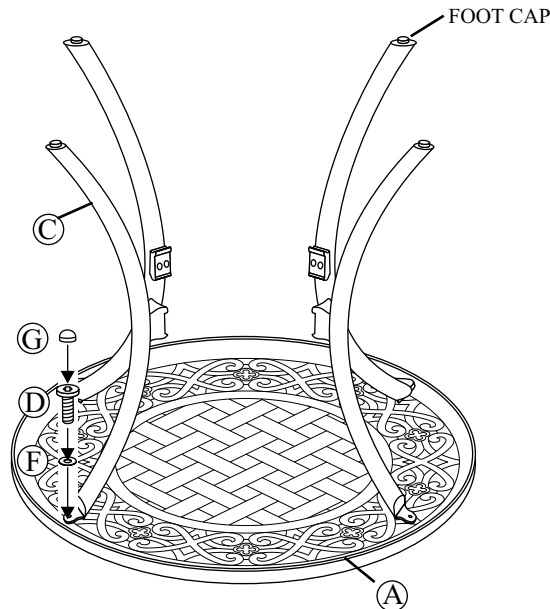

Figure 1
- 1 Place the table top upside down on a flat, non-abrasive surface. Attach a table leg to the table top by using a 1/4"x18 mm bolt and washer as shown in the **Figure 1**. Guide the bolts through the hole in the table leg, into the pre-drilled holes in the table top. **Hand tighten 2-3 turns only**. Repeat for the other three legs.